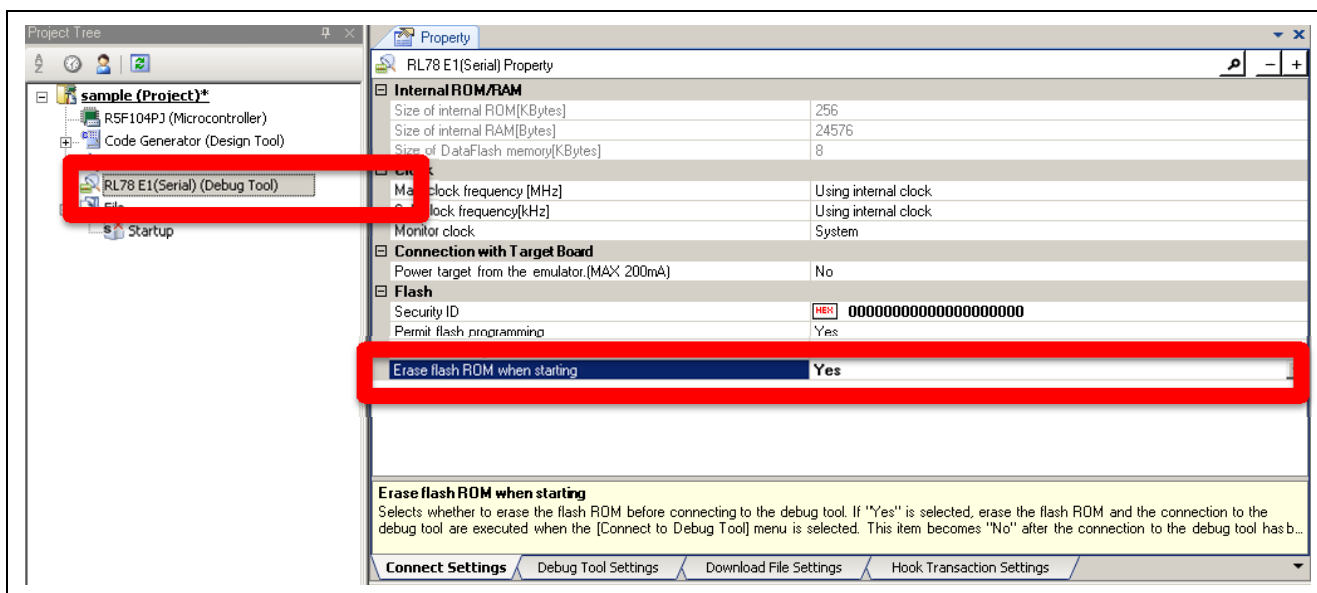

Figure 12.1 CS+ Debug Tool Setting Window
- ① Make sure debug tool is in disconnected state
- ② Double click **RL78 E1(Serial) (debug tool)** in CS+ project tree
- ③ In the **Property** → **Connection Setting** tab, select **YES** for **Erase flash ROM at startup**. (Refer to Figure 12.1).
- ④ From the Under the **Debug** tab located at the top of the window, select **Download debug tool**.